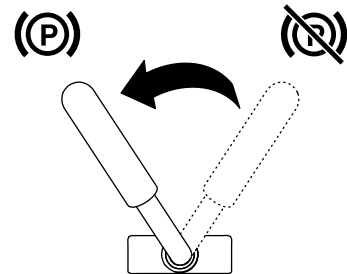

Figure 14
- To engage the parking brake, rotate the lever to left (Figure 14).